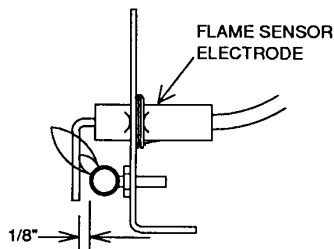

FIG. 12 - PROPER FLAME ADJUSTMENT
The pilot flame should envelope 3/8 inches of the end of the flame sensor. Refer to Figure 12. To adjust pilot flame, (1) remove pilot adjustment cover screw, (2) adjust the screw for the proper pilot flame, (3) be sure to replace cover screw after adjustment to prevent possible gas leakage.